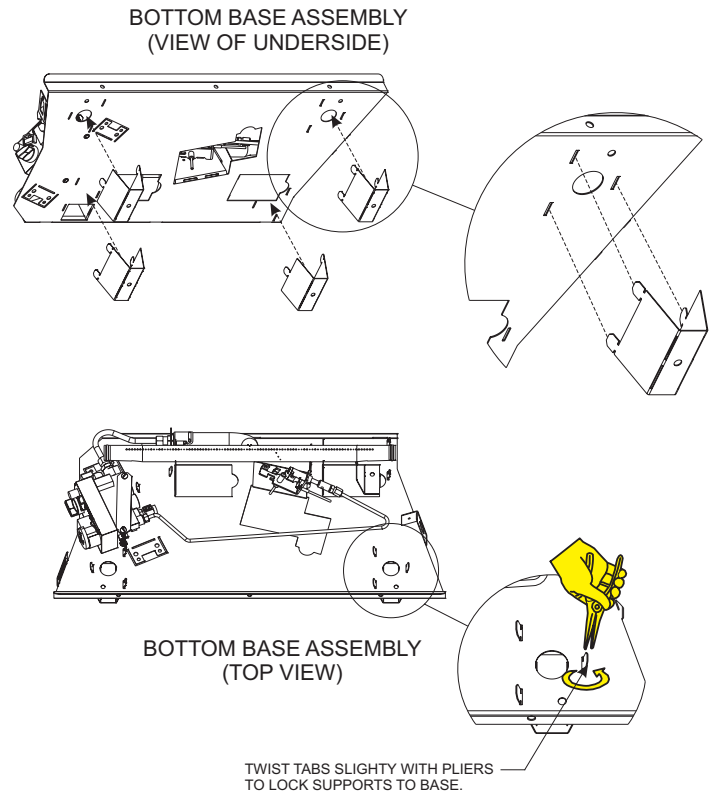

Figure 9
- If a Remote Control option is to be used with the VFRL (millivolt) series burner without the Support Legs installed, the remote receiver box must be installed outside of the firebox away from excessive heat. However, the remote receiver may be placed under the elevated Loft Burner by installing the Burner Support Legs. **See Figure 9.** If the Support Legs are to be installed, simply bend each of the legs into a "U" shape to match the drawing in **Figure 10.** Next, install the legs into the bottom base. Line up the three tabs on each leg with the slots provided, using pliers twist each of the tabs slightly in order to secure the legs to the bottom base.
- Installation of the Burner Support Legs is necessary on the VFIL (remote ignition) series burners. These models include a remote receiver box that must be placed under the bottom base of the Loft Burner assembly to shield the receiver batteries from excessive heat. **See Figure 16.** To install the Support Legs, simply bend each of the legs into a "U" shape to match the drawing in Figure 11. Next, install the legs into the bottom base. Line up the three tabs on each leg with the slots provided, using pliers, twist each of the tabs slightly to secure the legs to the bottom base. **See Figure 9.**